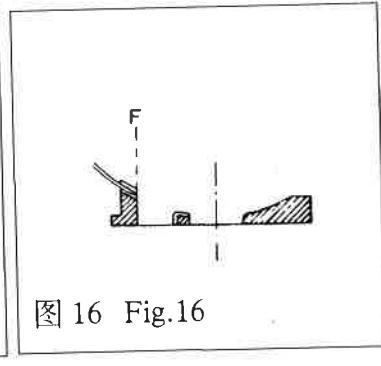

图 16 Fig.16
(3) 机针左极限位置 机针的左右位置以左极限为基准，要求机针在左极限时，针尖与针板左导槽的右侧面 “F” 平齐为机针的标准基准位置(图 16)。
Left limit shall be taken as a frame of reference. When the needle is at the left limit, needle point shall be flush with the right side "F" of the left needle guide groove of needle plate (Fig.16).